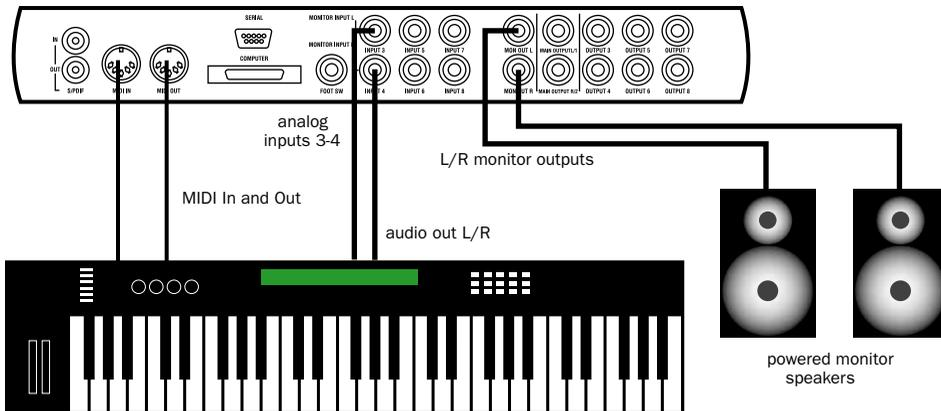

Figure 11. Connecting a synth to a Digi 001
- Plug line-level sources (synths, outputs from your mixer, or microphones or guitars that have been amplified by an outboard preamp) into the analog inputs on the back of the Digi 001 I/O (see Figure 11 on page 36).